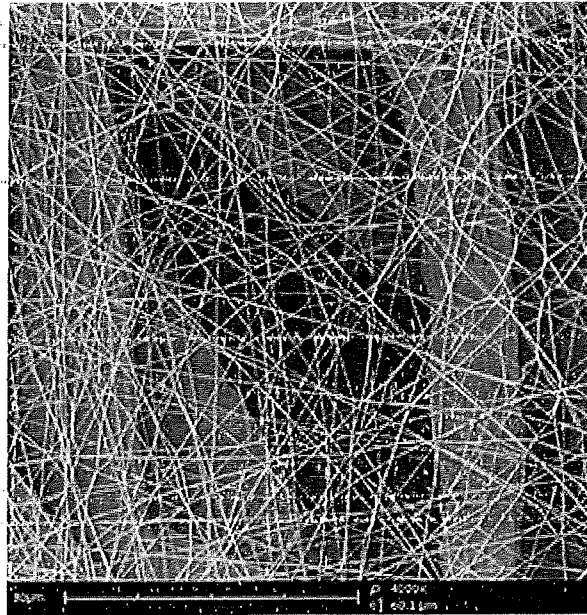

Figure 3: Image of nanofibers at 4000x magnification
- [c] Identify the best microscopy technique available to observe the image shown in Figure 3 and elaborate in detail the basic working principle of the microscopy technique suggested with an aid of a diagram.